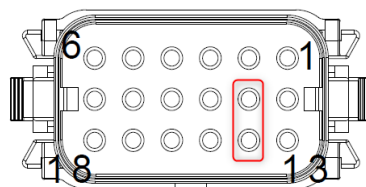

Figure 10, ABS X3 Connector
12. Remove and discard two plugs from the X3 connector, cavity 8 and 14. Install the S7470002-002 Harness HSA, wire number 783 into cavity 8 and wire number 784 into cavity 14 of the X3 connector and reinstall the X3 connector into the ABS module (see Figure 10).